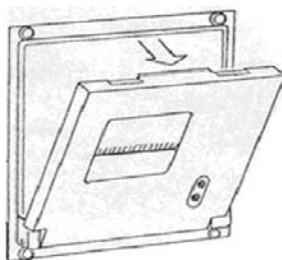

Fig 6-9 Open the front cover
1. Open the front cover of the printer. Refer to Figure 6-9.